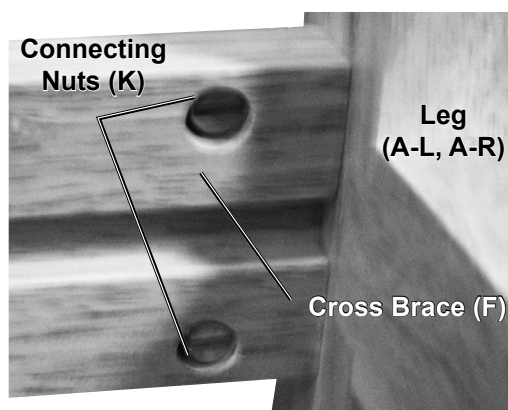

Figure 1
1. Insert Connecting Nuts (K) into holes at ends of a Cross Brace (F). Make sure that the slot on the Nuts align horizontally with the Connecting Bolts (K). This will allow the Bolts to be threaded into the Cross Brace. See Figure 1, below.